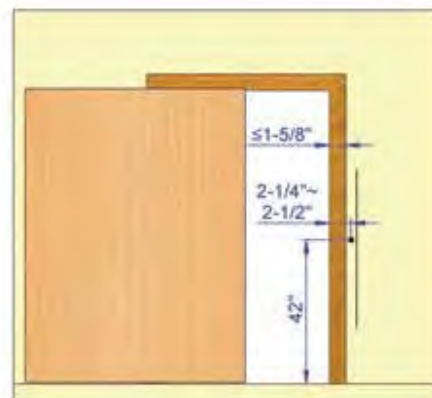

Figure 3. Proper measurement guidelines for applications with trim casing, both wide and narrow.
2). For openings with narrow casing (less than 1½ inches), the lock should be installed next to the trim casing, a minimum of 2¼ inches from the edge of the wall, subject to the size of the door overlap. *See Figure 3.*